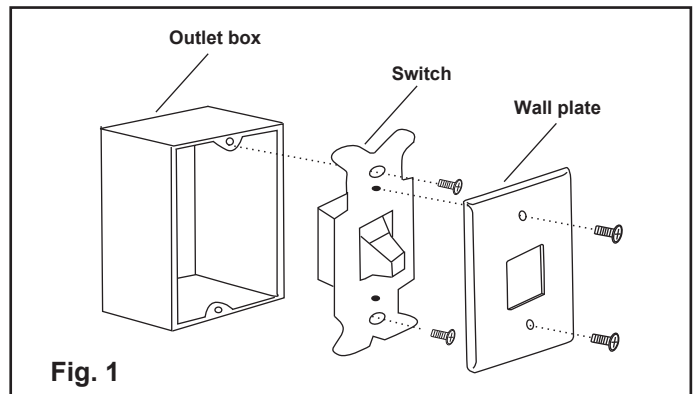

Fig. 1
- Turn power OFF at fuse box or circuit breaker and remove the existing wall plate and switch, do not remove wires before noting their position. (Figure 1).